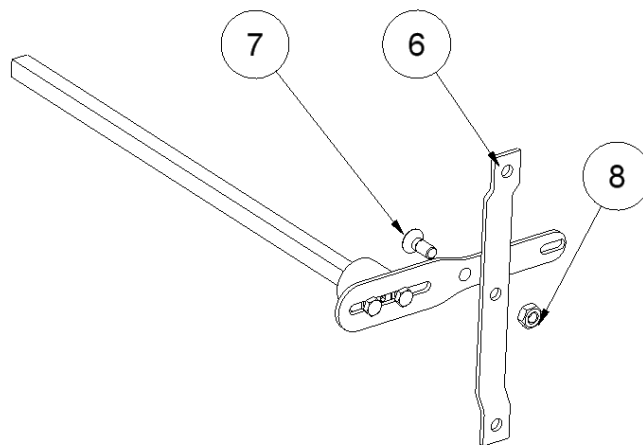

Figure.3
3. **GOVERNOR LINKAGE PLACING:** One of the screwed arms must be fixed to the governor linkage (6), through the M10 x 25 DIN 7991 8.8 screw (7) and the M10 DIN 985 Autoblock nut (8) – Fig. 3 –.